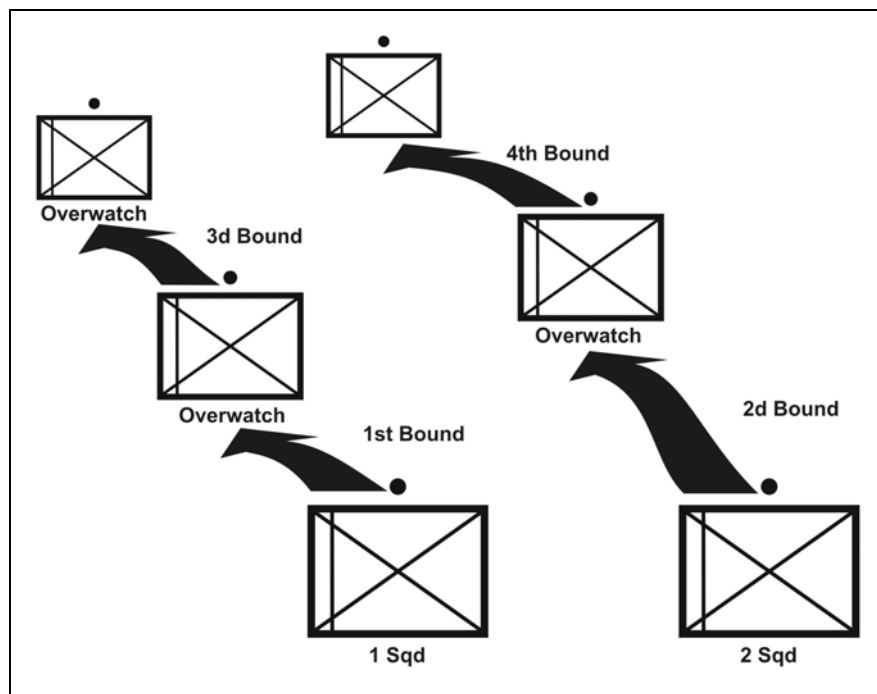

Figure F-13. Bounding overwatch movement technique.
(3) ***Bounding Overwatch.*** The squad or platoon uses *bounding overwatch* (Figure F-13, page F-9) when they expect contact with the enemy. This is the slowest movement technique, but it provides the most security.